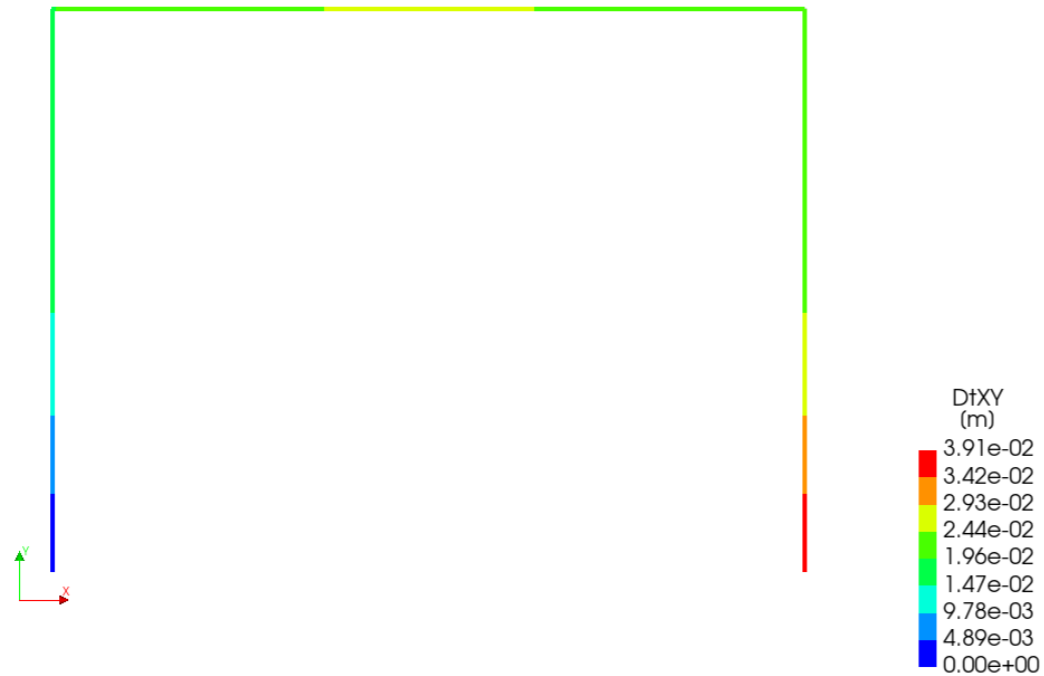

Figure 29: Total displacement DtXY
**Results browser** → Geometry load combination 4 → Output linear static analysis → Nodal results → Displacements → TDtXY [Fig. 29]